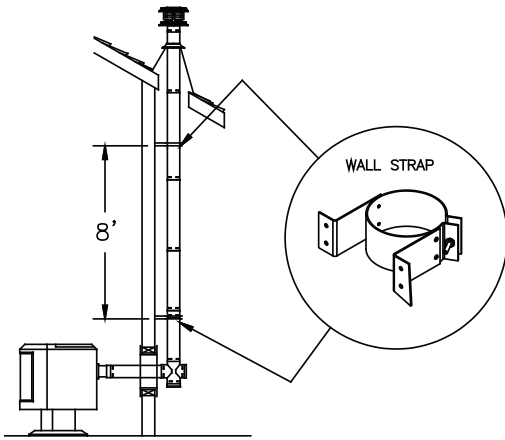

Figure 15
**D.** Attach Wall Strap just above the tee. Wall Straps must be placed every 8-feet along an exterior vertical run (**Figure 15**). If your exterior vertical run terminates horizontally before penetrating the roofline, install at least one Wall Strap on the Pipe Section before 90 Degree Elbow and Horizontal Cap (**Figure 16**). Under no circumstances can a Vertical Cap be installed adjacent to vertical wall. PelletVent Pro offers fixed and Adjustable Wall Straps to maintain a 1"-3" clearance, as desired. If Assemble Pipe Sections in the same manner described in Step 2 of the general instructions.